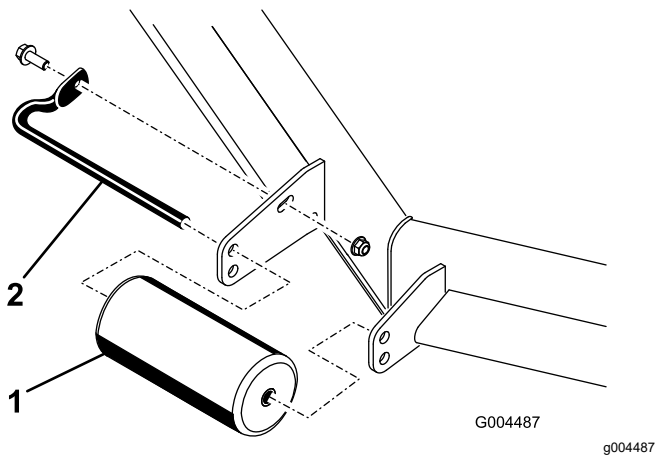

Figure 12
4. Remove the fasteners securing each roller on your mower and move the rollers up or down as desired (Figure 12).